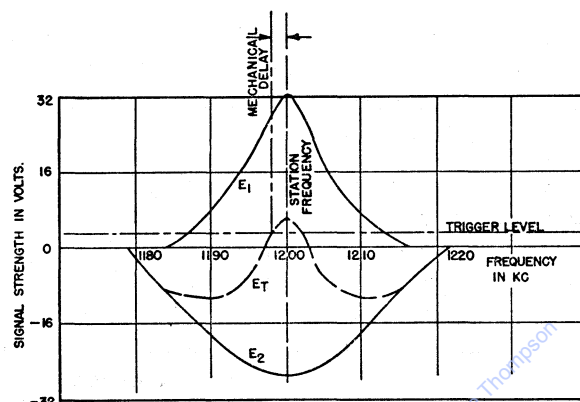

Fig. 8
The purpose of the tuner detection circuit is to take input signal voltages of varying strength and trigger the relay tube so that the tuner will stop accurately on the station frequency. A positive voltage developed by the signal on the grid of the D.C. Amplifier Section causes the tuner to trigger and stop. This is accomplished by using the Detector Diode and Bucking Diode to develop voltages of opposite polarity (E_1 and E_2) between grid and ground of the D.C. Amplifier Section of the Trigger Tube, thus effectively applying the algebraic sum of these voltages (E_t) to this signal grid. (Note that contacts #2 and #4 of the relay are open.) These relative voltages plotted against frequency are shown in Fig. 8 using a station frequency of 1200 KC. Notice that the response curve of the voltage (E_2) across the 1.5 megohm resistor (17) is broader and not as large as the voltage (E_1) developed across